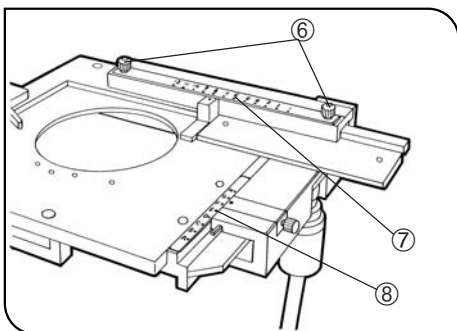

Fig. 70
1. Loosen the two clamping knobs ⑥ at the top of the stage's X-axis guide. Positioning the scale numerals correctly, plate the X-axis scale ⑦ on the guide. Then tighten the clamping knobs. (Fig. 70)
2. Positioning the scale numerals correctly, plate the Y-axis scale ⑧ on the top of the stage's Y-axis guide. The scale will be held in place magnetically. (Fig. 70)